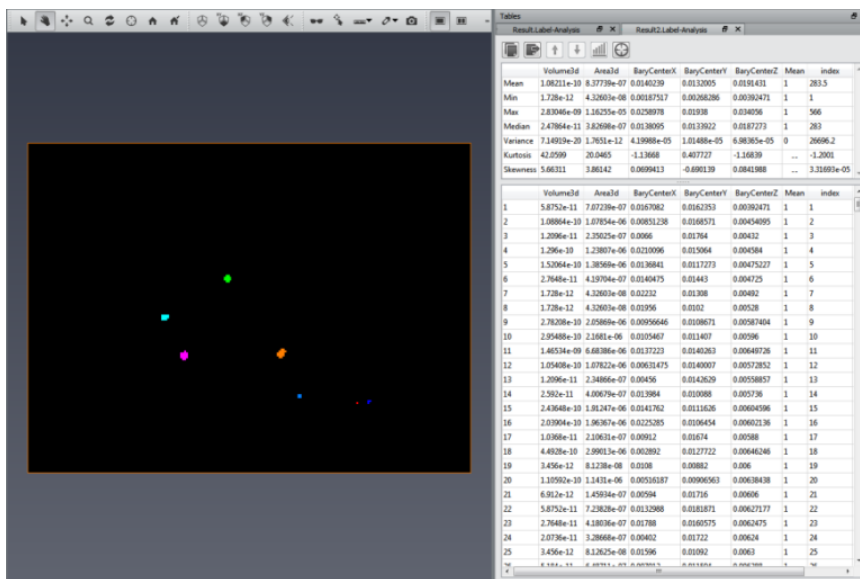

Figure 5.9: Chocolate Bar Bubble Statistics
- Play the recipe on the *chocolate-bar.am*. The recipe will compute statistics as shown in Figure 5.9.